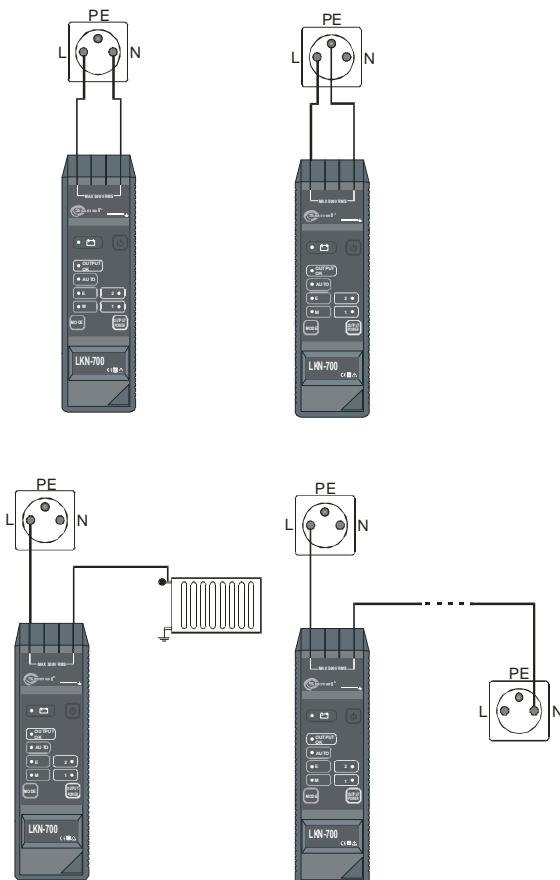

Fig.7 Detection of cables – different ways of connecting the transmitter
To avoid the field compensation effect when the current flows through two cores of the cable in opposite directions, you need to use grounding (the earth or the neutral wire) situated in the remote power socket or to connect to earthed metal water pipe or to a heating pipeline (Fig. 7). In some cases, e.g. when the return current can flow through earthed structural elements of the building, it can be more beneficial for unambiguous localization of the cable to connect both sockets of the transmitter to one power point.
- Connect the second socket to the phase wire in a power point, switch etc. (Fig. 7).